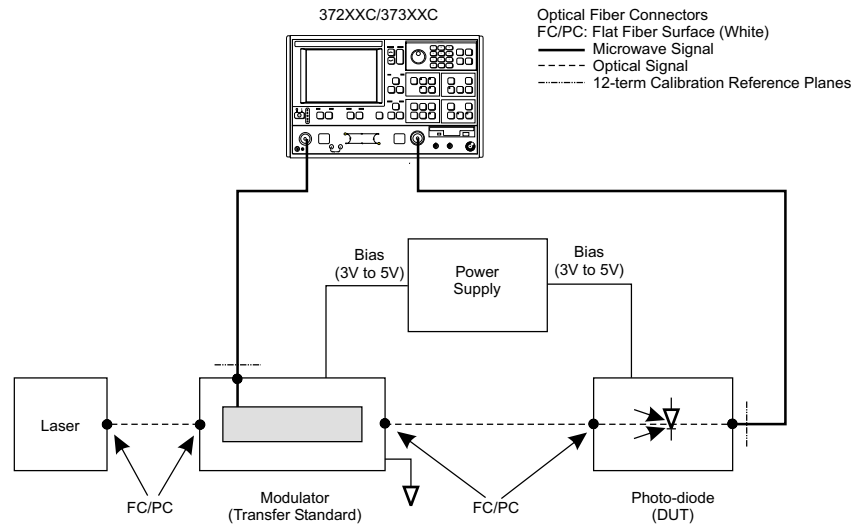

Figure 8-35. O/E Measurement Set-up
modulator are required, in addition to the VNA, to make O/E measurements. See Figure 8-35, below, for the equipment set-up.
- Step 1.** Set-up the measurement as shown in Figure 8-35, above.